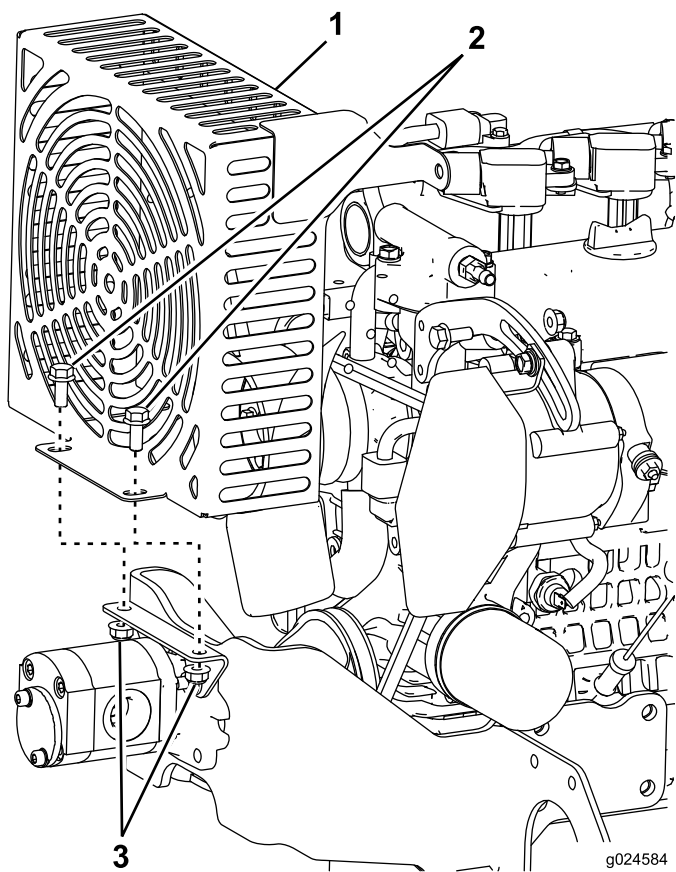
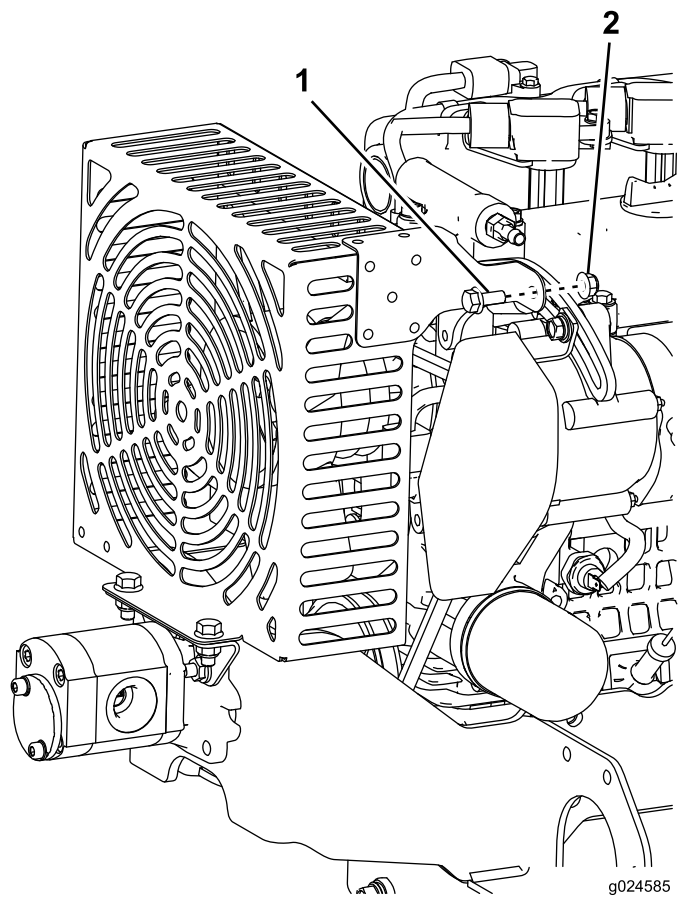

Figure 9
Figure 10
4. Install the fan guard; refer to Figure 9 and Figure 10.